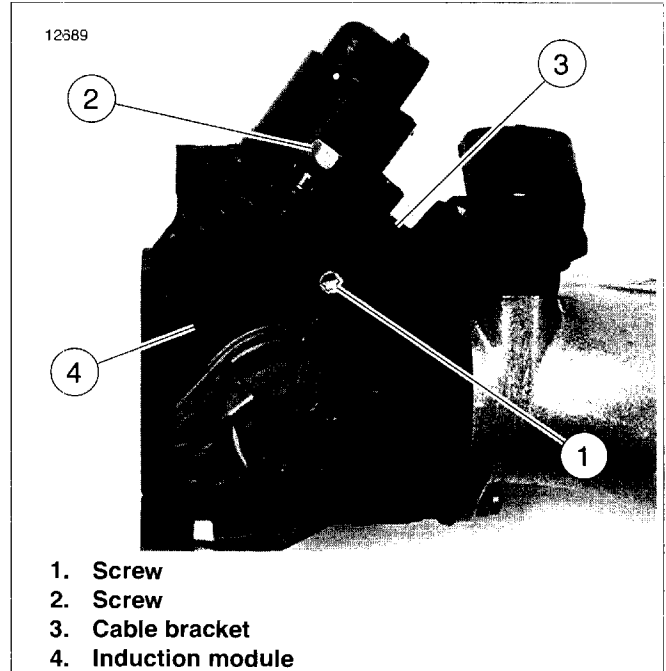

Figure 4-44. Removing/Installing Cable Bracket
2. See Figure 4-44. Remove screws (1, 2) and cable bracket (3) from induction module (4).
- See Figure 4-44. Install cable bracket (3) onto induction module (4). Obtain **new** screws (1, 2) or apply LOCTITE 243 to existing screws. Install both screws finger-tight. Then tighten both IAC mounting screws to **60 in-lbs** (6.8 Nm). Tighten side screw (1) to **60 in-lbs** (6.8 Nm).